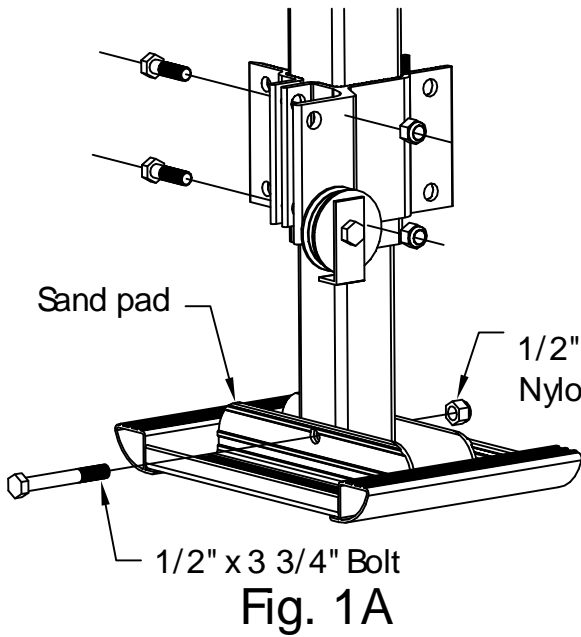

Fig. 1A
- ❑ Attach sand pads to all four corner posts assemblies using 1/2" x 3 3/4" bolts and nylock nuts. Torque to 25 ft/lbs. See Fig 1A.